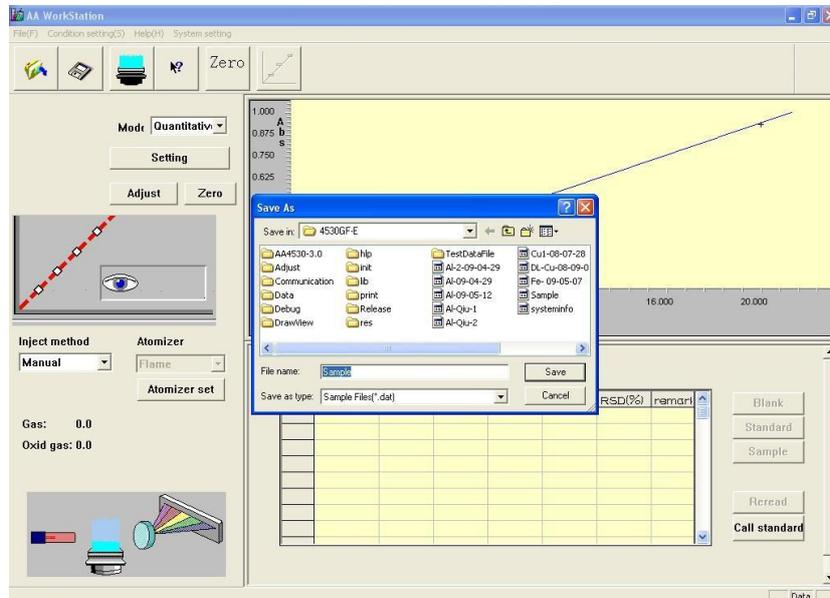

Figure 4-33
- Press "Save" and the "Save as" dialog will appear as shown in Figure 4-33. Enter the file name and press "Save".